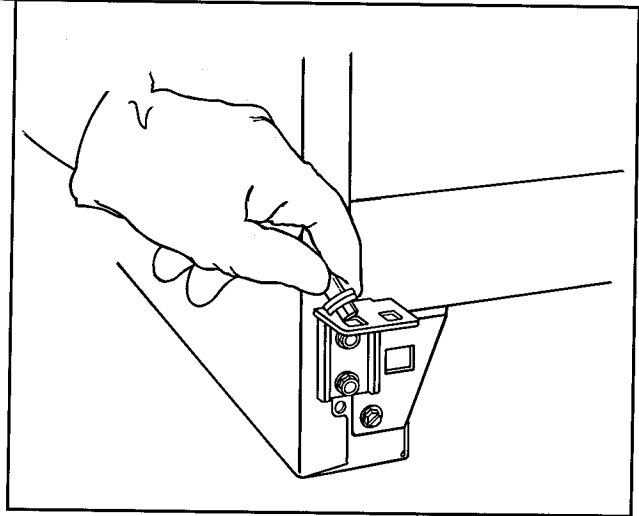

Figure 38
- d. Switch bottom hinge pin from right square hole in bracket to left square hole. See Figure 38. All hinge spacers and ring washers must be in place behind and on hinge pin.